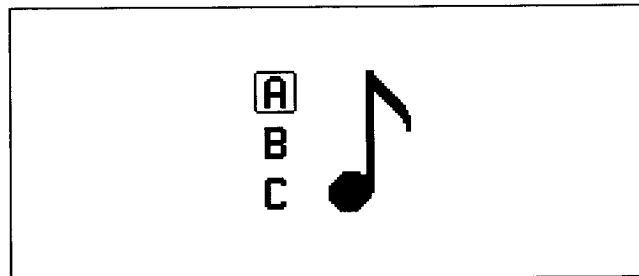

Fig. 11-1 Display: Tone Selection A
- 2 Switch power on. Then immediately depress and hold both the STANDBY and HAND ACTIVATION buttons. When the graphic shown in Fig. 11-1 appears on the display, release the STANDBY and HAND ACTIVATION buttons.